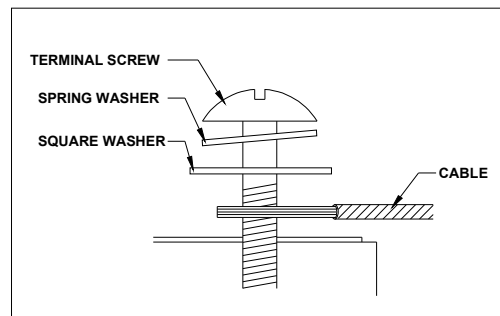

Figure 4. Ring or Spade Terminal Connectors
- C. The wire used to interconnect PV modules may be single or two conductors, from 14AWG (2.08 mm²) up to 10AWG (5.26 mm²) gauge stranded copper wire, in a "SUNLIGHT RESISTANT" and insulated for 90°C minimum jacket cable. This cable is suitable for applications where wiring is exposed to the direct rays of the sun. The maximum and minimum outer diameters of the cable that may be used with the cable connector are 8 mm and 6 mm respectively (Figure 4).